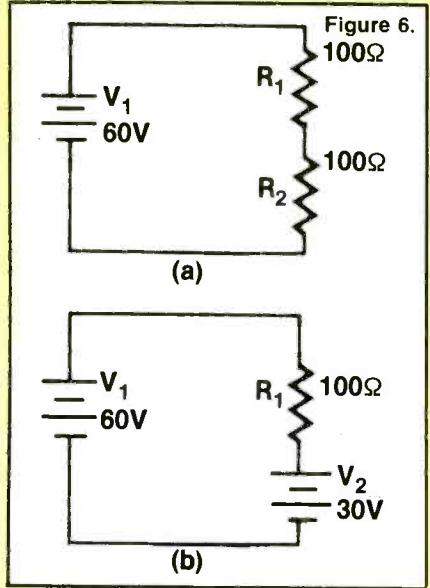

Figure 6.
A.) greater for the circuit in (a) of Figure 6.
B.) the same for both of the circuits in Figure 6.
C.) greater for the circuit in (b) of Figure 6.